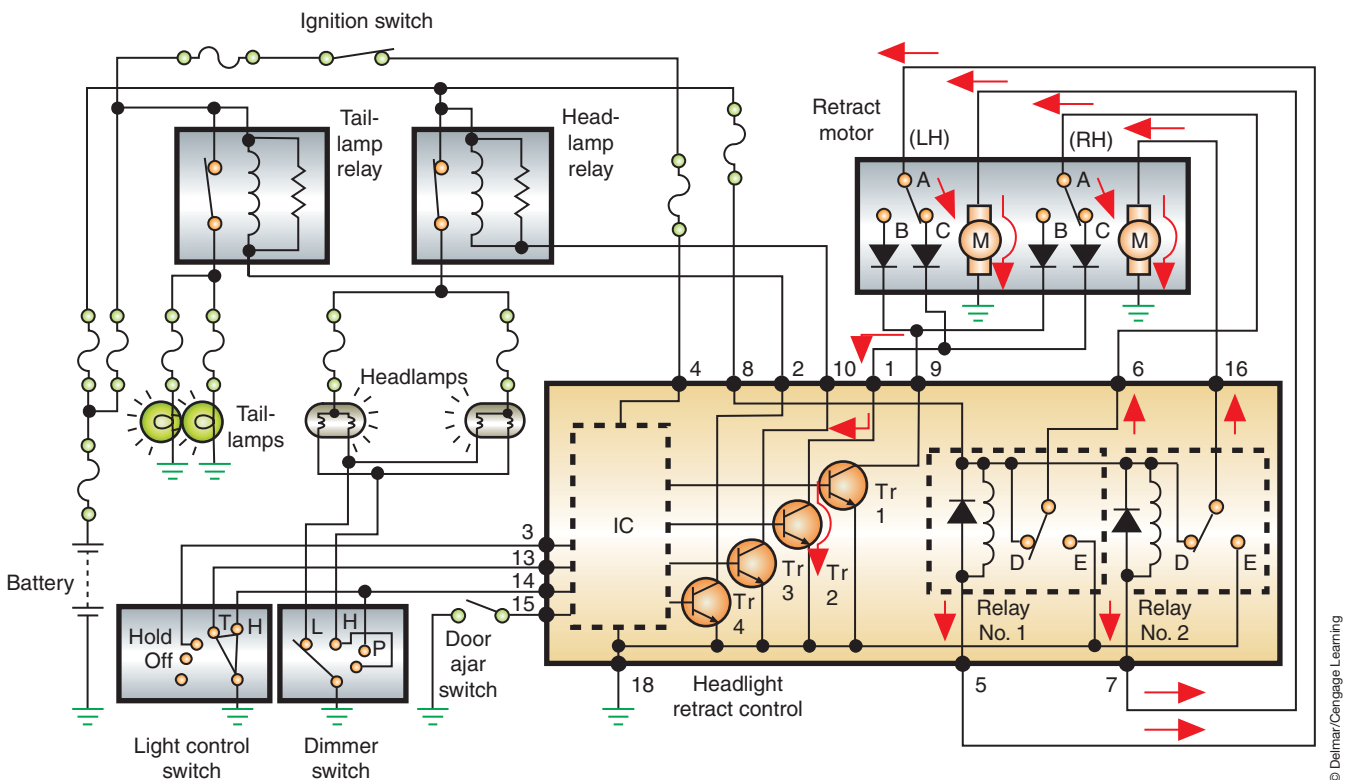

FIGURE 8-23 Pop-up headlight system wiring schematic.
Figure 8-23 illustrates a system that incorporates an integrated chip (IC). Each motor has its own relay and limiting switches. When the limit switches are in the A-B position, the doors are full open. When the switches are in the A-C position, the doors are full closed.